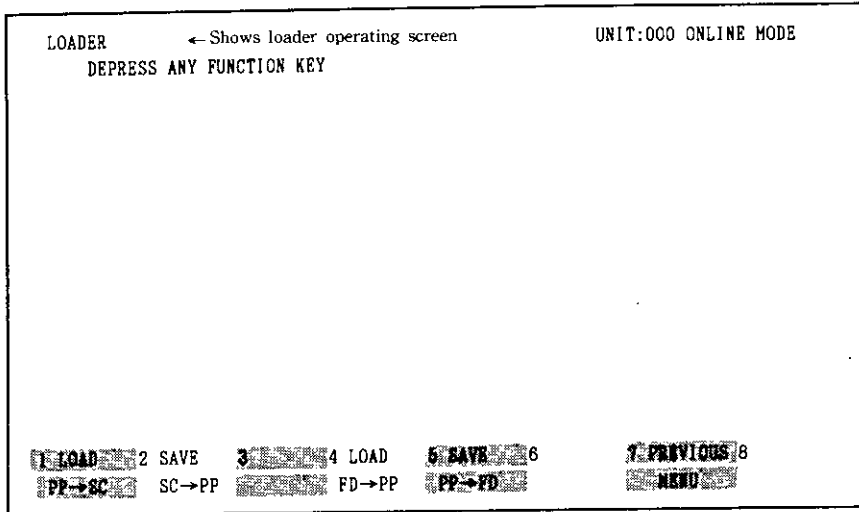

Fig. 7.35 Loader Menu Screen
1. If the "F7" (PREVIOUS MENU) key is depressed during the process shown in Fig. 7.44, the loader menu screen (Fig. 7.35) will reappear.